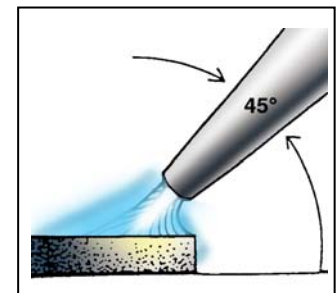

Figure 5
22. Hold the torch at a 45-degree angle, with the inner cone approximately 1/8 in. from the work. Refer to Figures 5 and 6.